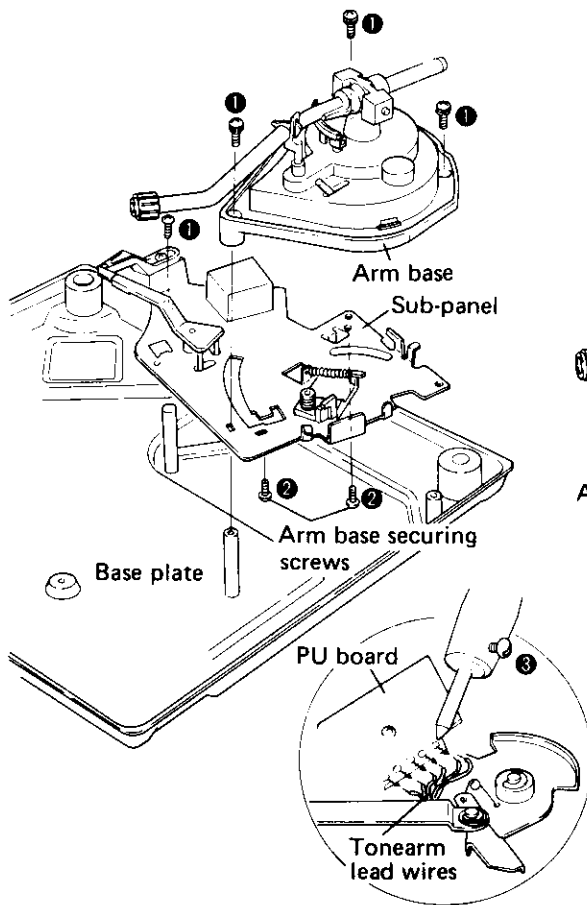

Fig. 3-2
1. Undo the 4 screws securing the arm base and the sub-panel (see Fig. 3-2).
2. Undo the 2 screws securing the arm base to the sub-panel (see Fig. 3-2).
3. Disconnect the tonearm lead wires from the PU board (see Fig. 3-2).